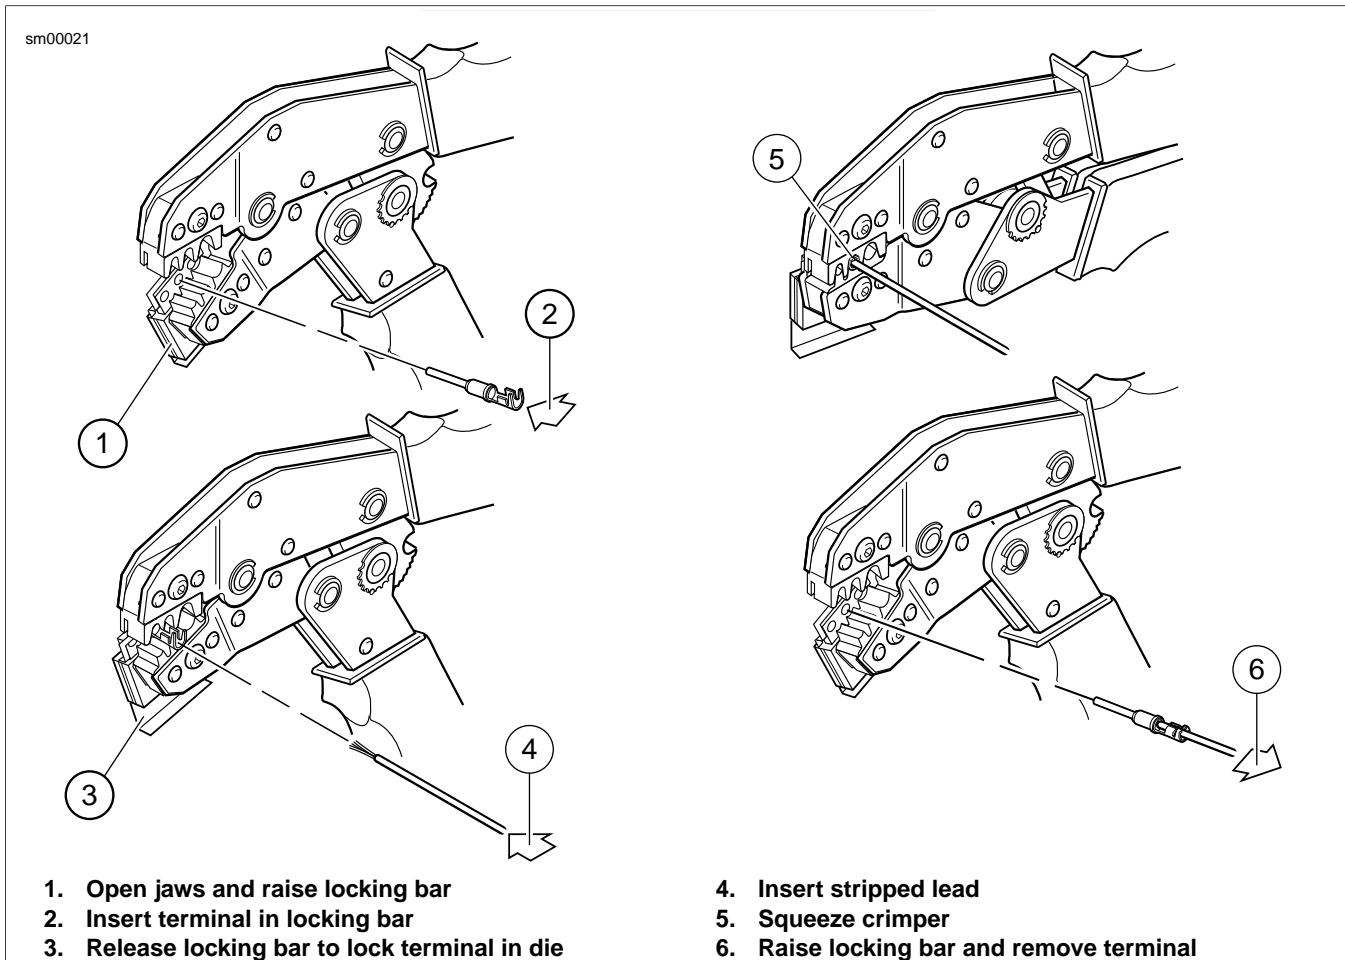

Figure A-21. Crimping a Deutsch Standard Terminal
1. See Figure A-21. Squeeze the handles of the DEUTSCH TERMINAL CRIMP TOOL (Part No. HD-39965-A) to open the jaws. Push the locking bar (1) up.
2. Insert (2) terminal (socket/pin) through hole of the locking bar, so that the rounded side of the contact barrel rests in the nest (concave split level area) with the crimp tails facing upward. To match the wire gauge to the crimp tool die, refer to Table A-3.